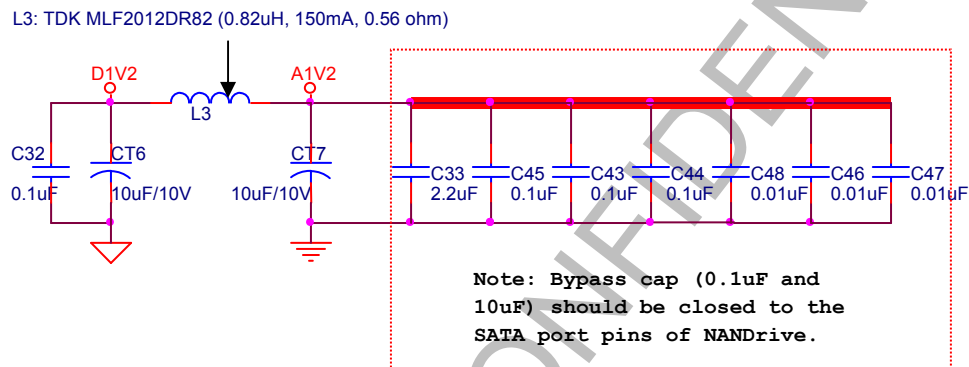

Figure 1: Recommended Pi Filter for Analog power
- SATA NANDrive power sources need to have “Pi filter” between the digital and analog 1.2V to filter power noise as shown in Figure 1. Ideally, using plane instead of trace for power and ground will achieve the best noise prevention and heat dissipation. If this practice is impossible due to PCB limitation, use as much power traces as possible for the best result. Multiple via is also required for power and ground signal transfer to different layers or power planes.